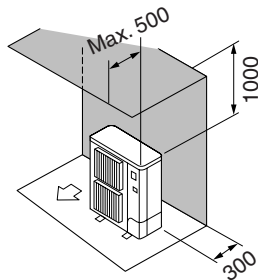

Fig. 2-3
② Obstacles at rear and above only (Fig. 2-3)